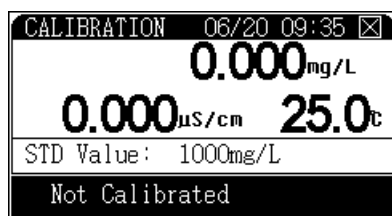

Figure 20 Calibration mode
- 5 Press [**Calibrate**] and select **TDS Factor**. Press [**Enter**] to enter Calibration mode as shown in Figure 20.